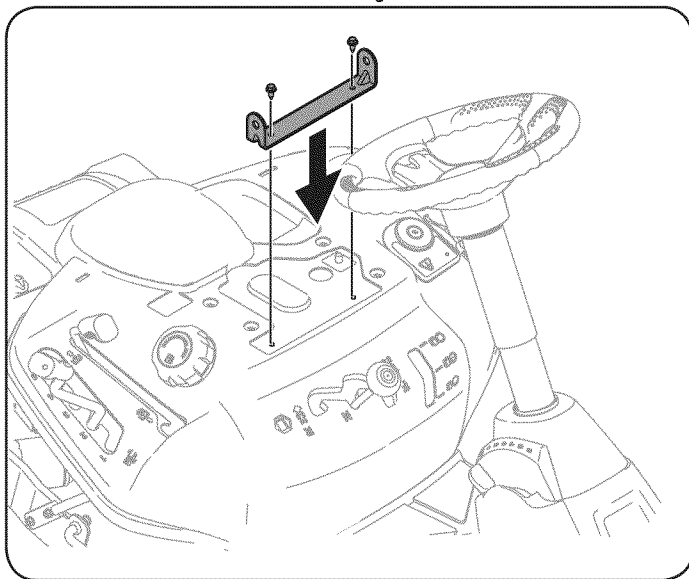

Figure 4
4. Install two shoulder bolts included with your hardware pack and secure with two lock nuts. See Figure 4.